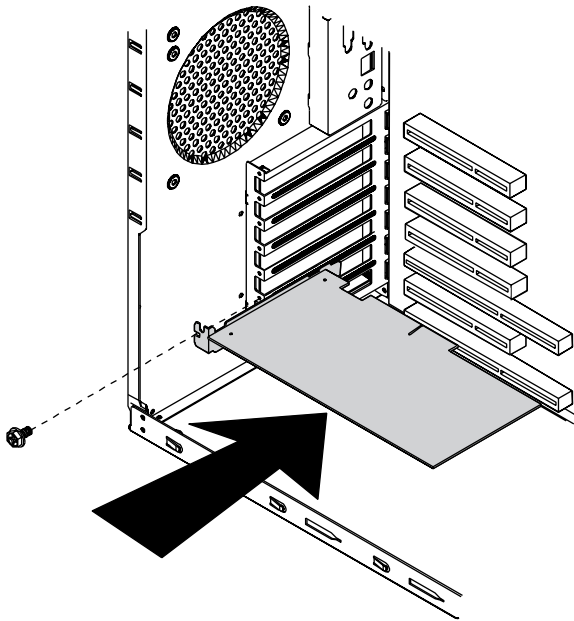

Figure 34: Installing an Expansion Card
5. Remove and retain the screw securing the expansion port cover to the rear cover. Keep the port cover for reinstallation in case you ever need to remove the card (see Figure 34).